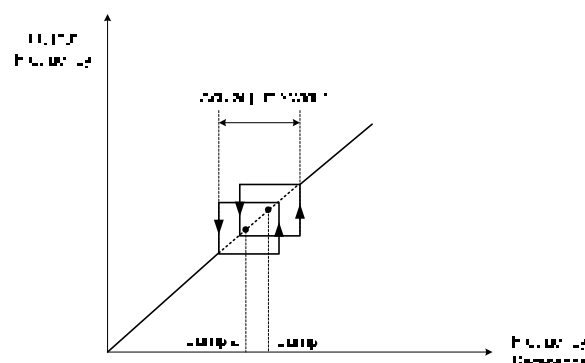

Figure 4.3.87 Jump frequency overlap
- When jump frequency overlap the sum of the overlapped jump frequencies will be used as the jump frequency range. Refer to figure 4.3.87 °